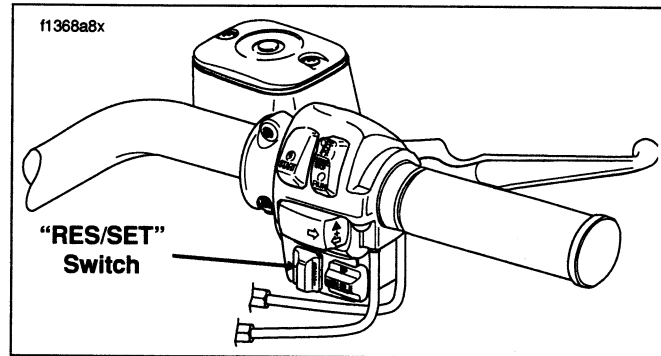

Figure 15. Right Handlebar Switch Assembly
2. See Figure 9. and Figure 15. A "RES/SET" switch located in the right handlebar control group which controls several system functions, including:
2. See Figure 9. and Figure 15. Momentarily press the "RES/SET" switch to the **right** to set the speed. The system will quickly (approximately 1-1/2 seconds or less) begin to maintain the desired motorcycle speed.
1. See Figure 9. and Figure 15. The system has an "accelerate" function. If you are at your SET speed, press the switch to the **left** and release to increase speed in 1 mph (1.6 km/h) increments.
1. See Figure 9. and Figure 15. The system has a "decelerate" function. If you are at your SET speed, press the switch to the **right** and release to reduce speed in 1 mph (1.6 km/h) increments.